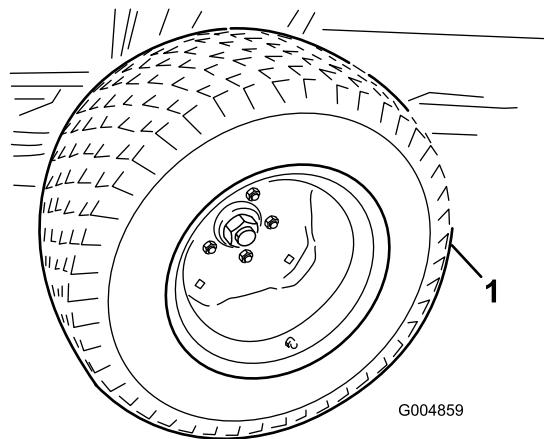

Figure 82
20. Install the summer drive tires with two nuts per tire (Figure 82).